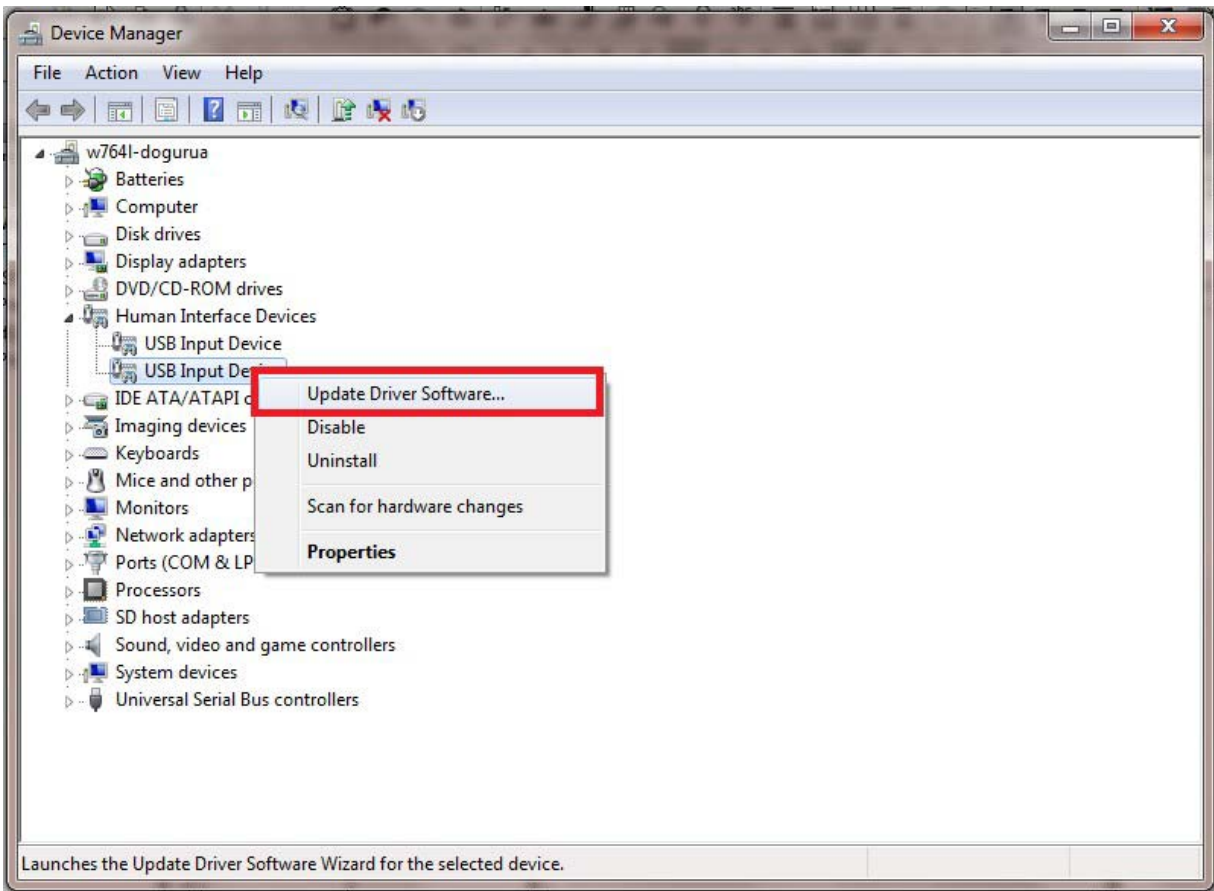

Figure 7 • Updating Driver Software
7. In the **Device Manager** window, right-click on the **USB Input Device** with the specified VID number and select **Update Driver Software**. Refer to Figure 7.